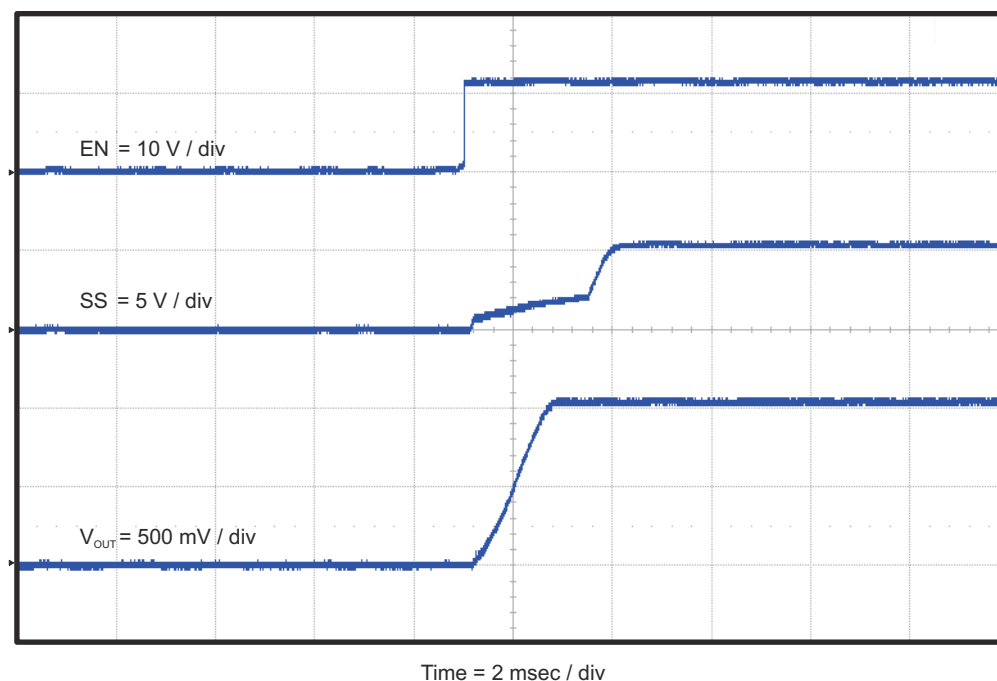

Figure 4-12. TPS54228EVM-686 Start-Up Relative to EN
The TPS54228EVM-686 start-up waveform relative to enable (EN) is shown in Figure 4-12.